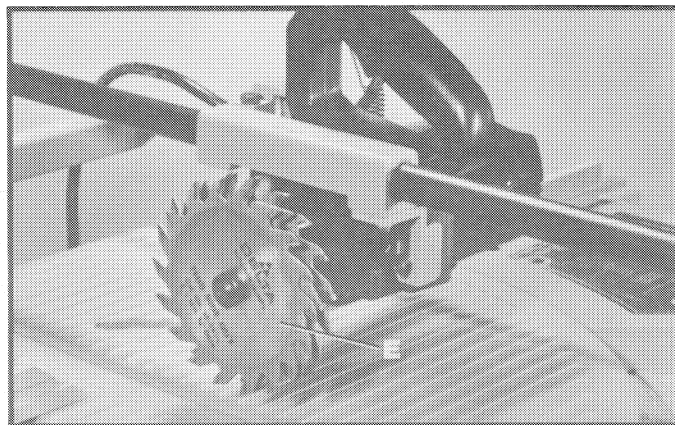

Fig. 58
3. Assemble the dado head set (E) Fig. 58, to the saw arbor in the same manner as the saw blade. **NOTE:** When cutting full width dados the outside blade flange is not used.